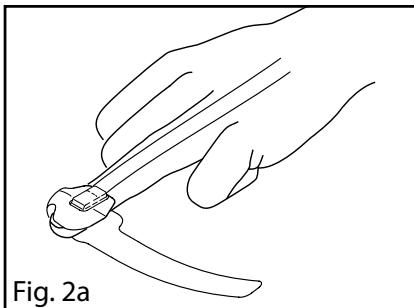

Fig. 2a
2. Refer to **Fig. 2a**. Orient the sensor cable so that it points toward the patient and runs along the top of the hand. Position the emitter cover (white box) over the back of the nail bed with the edge of the tape at the tip of the finger (not the tip of the nail). Complete coverage of the detector window is needed to ensure accurate data.